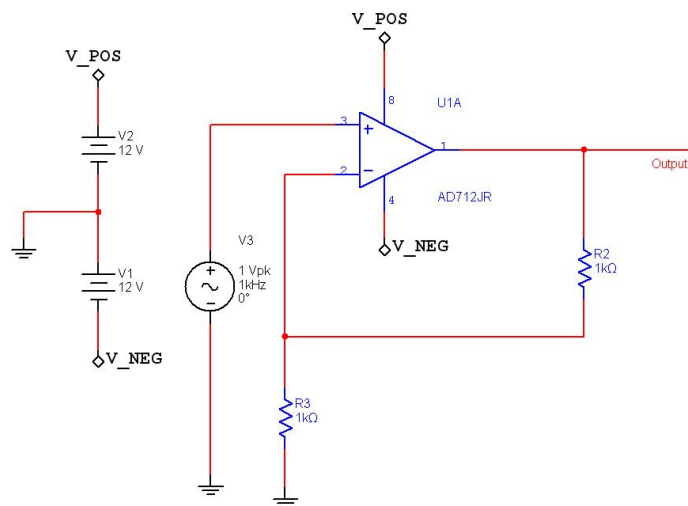

Figure 10. Place a Simulation Source
3. Place and wire the AC voltage source as shown in Figure 10.
4. Place and wire a Ground component to the AC source as shown in Figure 10.